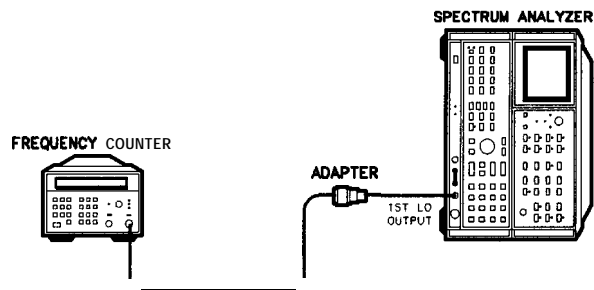

Figure 3-61. YTO Main Coil Driver Adjustments Setup
21. Connect frequency counter to front-panel 1ST LO OUTPUT as shown in Figure 3-61.